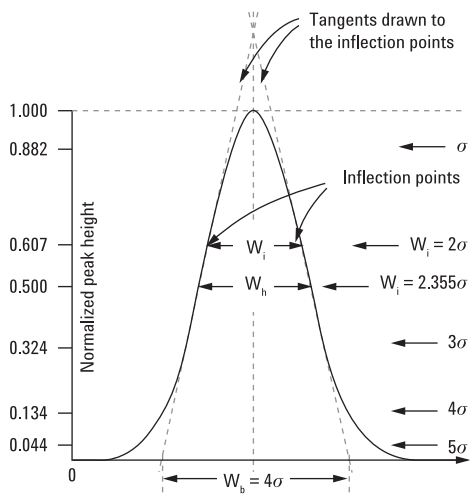

Figure 62. Widths of a Gaussian peak at various heights as a function of the standard deviation (σ) of the peak. (Modified with permission from reference 2).
would be eluted as a narrow slug of pure compound if not for the process of band broadening. The measure of band broadening is bandwidth (t_w) or, more correctly, the number of theoretical plates (N) in the column. Sometimes called band dispersion or band spreading. See Figure 62.
Bandwidth (t_w): The width of the chromatographic band during elution from the column. It usually is measured at the baseline by drawing tangents to the inflection points on the sides of the Gaussian curve that represents the peak. Small bandwidths usually represent efficient separations; also called peak width. See Figure 62.